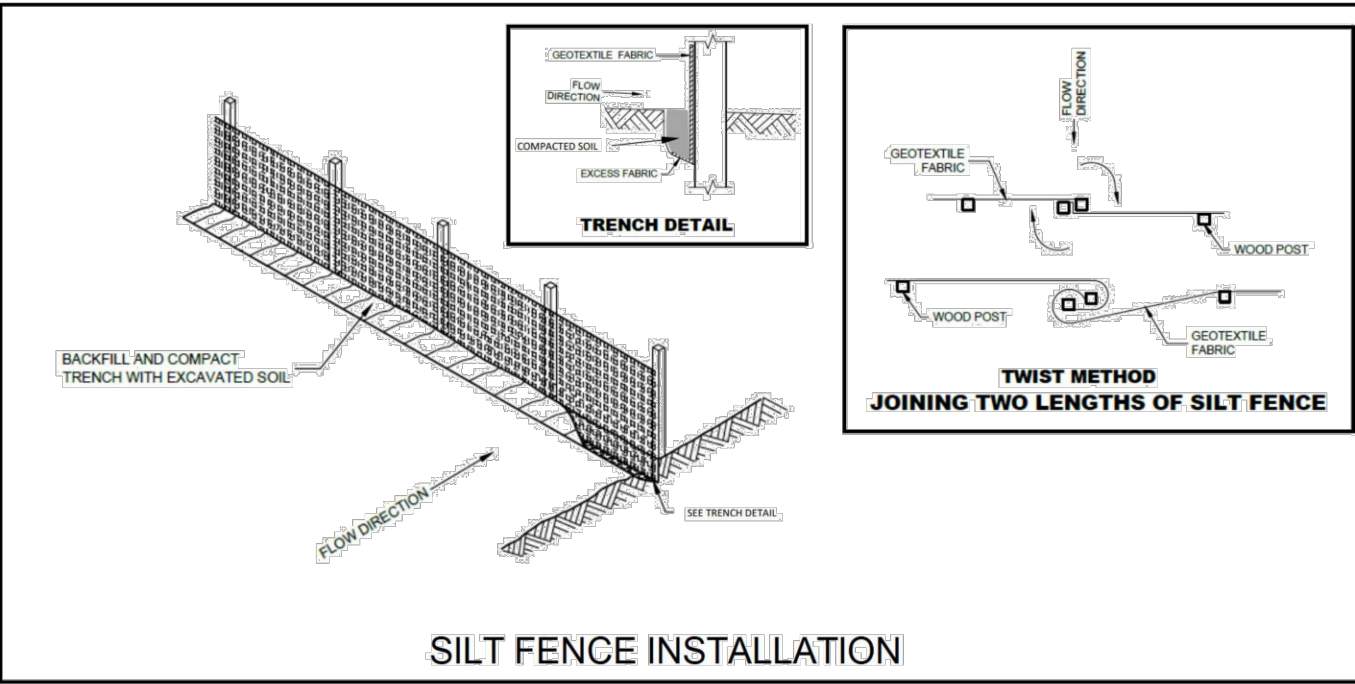

Figure 2 – Excerpt from DNR Tech Standard #1056
- b. **SILT FENCE** – shall be trenched and compacted at the base to prevent undercutting. Joints shall be made by twist or hook method to prevent bypassing – See Figure 2 and DNR Tech Standard #1056